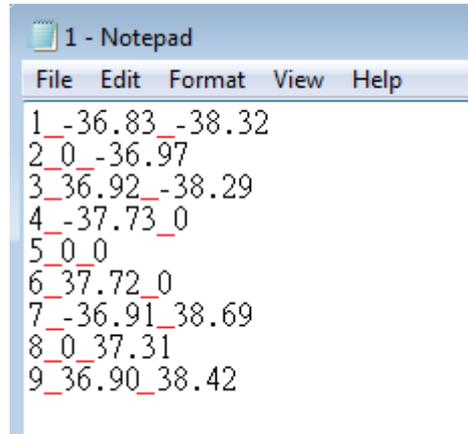

Fig. 1.1.49
- From File...** Users can create a *.txt file as a correction file and using this function to import that file as the coordinates of X and Y, see Fig.1.1.49.